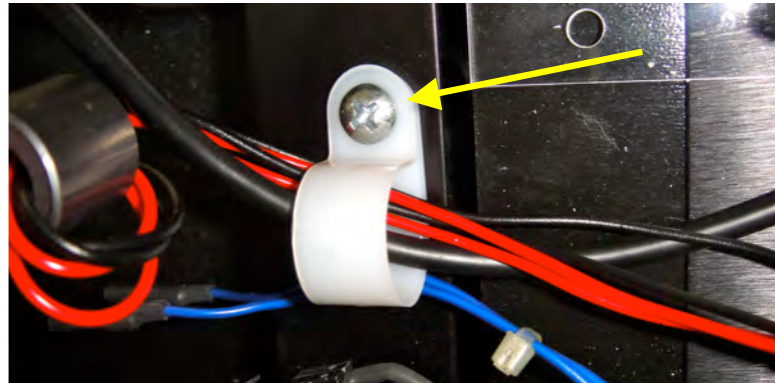

Figure 7: Cable Clamp Installation
Step 5. Mount the supplied cable clamp utilizing the screw located above and to the right of the newly installed printer on the enclosure door. See Figure 7.